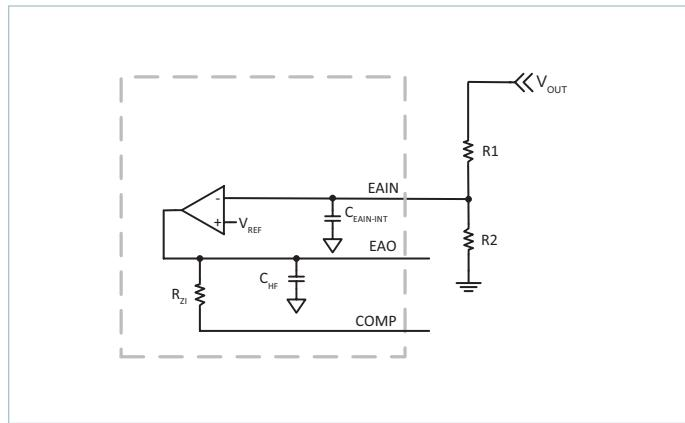

Figure 58 — External resistor divider network
The PI352x-00 family of Buck Regulators utilizes V_{REF} , an internal reference for regulating the output voltage. The output voltage setting is accomplished using external resistors as shown in Figure 58. Select $R2$ to be at or around $1k\Omega$ for best noise immunity. Use Equations (2) and (3) to determine the proper value based on the desired output voltage.